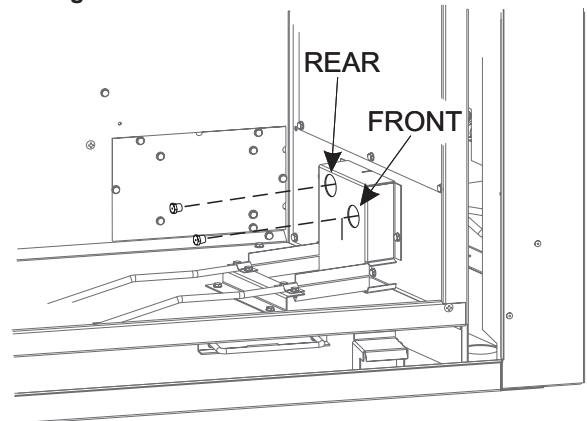

Figure 5
6. Use a 7/16 inch deep socket set to remove orifices. See Figure 5.